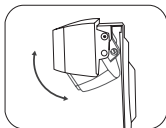

FIG 6
5. You can adjust the angle of the camera by moving the camera up and down. Loosen and tighten the screws to fix the desired angle **(FIG 6 and 7)**.